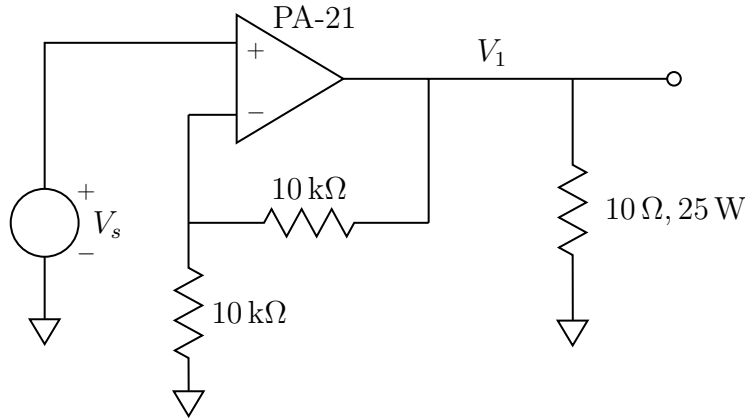

Figure 2: Amplifier with resistive load. The 10k resistors shown are soldered-in on the amplifier board. The ground connections are made on the terminal strip.
1. **Resistive load:** Carefully connect the amplifier to the supply as described above. Use a $10\ \Omega$, $25\ \text{W}$ power resistor as the load in a non-inverting gain of two connection. The circuit you build should appear as shown in Fig. 2. The 10k resistors shown are soldered-in on the amplifier board. We have also soldered in a pair of $1\ \text{M}\Omega$ resistors to provide the input
As a first step, suppose that the PA-10 operates as an ideal infinite gain op amp. Further, suppose that the input in Fig. 2 is a 5V amplitude sine wave at 1000 rad/sec $V_s = 5 \sin 1000t$. Further assume that the PA-10 is operating from ± 17 V supplies. In this case, calculate the voltage $V_1(t)$ and the resulting current $I_s(t)$ through the 10Ω sense resistor R_s . Also calculate the average power dissipated in the PA-10 and in R_s . How do these values compare with the rated dissipation of the two devices? Note that your answers will not depend upon frequency, given the ideal infinite gain op amp assumption. Show your calculations.
Next, we want to explore the circuit operation with the model including the PA-10 internal dynamics, and to predict and measure the closed-loop dynamic response of the amplifier as connected in Fig. 2. Use the data sheet for the PA-10 to determine an appropriate model for the amplifier which matches the data sheet in magnitude and phase as a function of frequency. Show and explain how you determined this model. Use your model in a block diagram for the connection to predict the loop crossover frequency, phase margin, and closed-loop step- and frequency-responses. Use **OCVNCD** to simulate your system, and plot the expected step response.